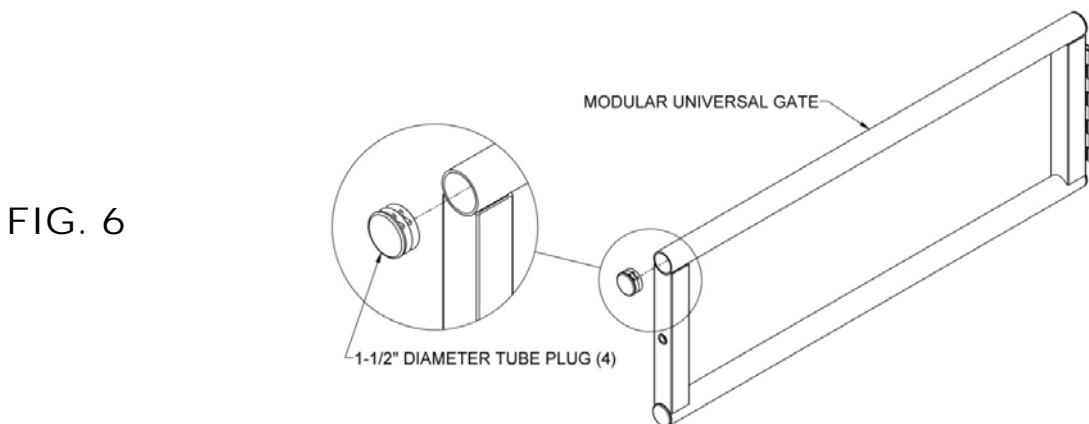

FIG. 6
- 3.1. Install the 1-1/2" diameter tube plugs into ends of the 1-1/2" diameter tubes on the gate. Use a rubber mallet to tap plugs into place until fully engaged (FIG. 6).